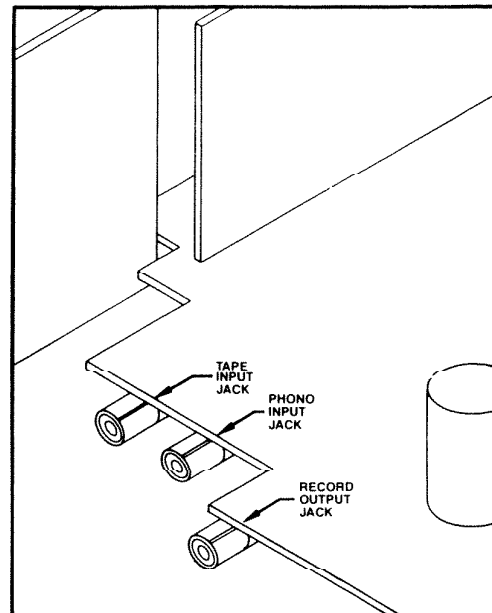

FIGURE 18
1. To connect an optional NuTone Record Changer (Model RC-91 Series) or Stereo Cassette Player/Recorder, locate the **PHONO INPUT**, **TAPE INPUT**, and **RECORD OUTPUT** jacks on the master panel. See Figure 18.
2. To play the phonograph over the intercom system, insert the accessory's output plug into the master panel's **PHONO INPUT** jack. See Figure 18.
3. To play the cassette player over the intercom system, insert the accessory's output plug into the master panel's **TAPE INPUT** jack. See Figure 18.
4. To use the radio as a program source for recording on the separate cassette player, insert the tape player's input plug into the master panel's **RECORD OUTPUT** jack. See Figure 18.